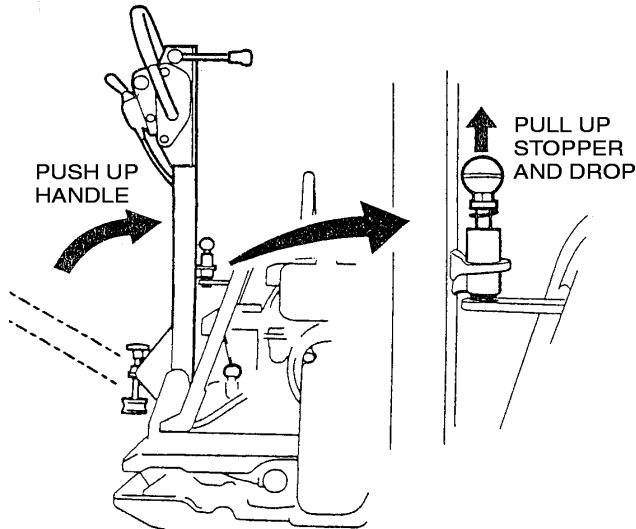

Figure 15. Stowing the Handle
1. Push up the handle (Figure 15).